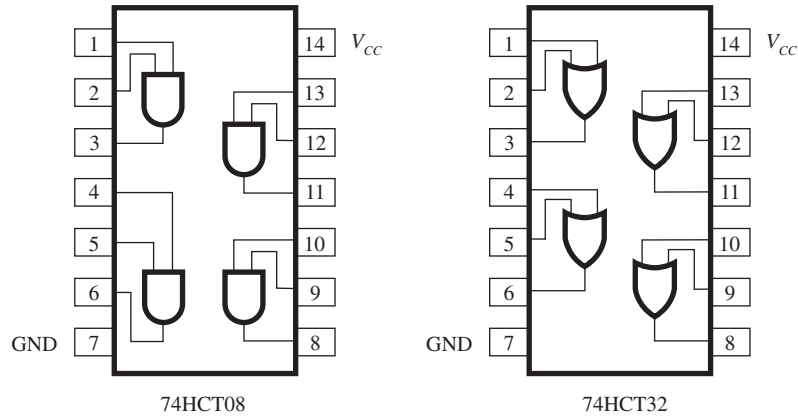

Figure P11
11. The pin layouts for a 74HCT08 CMOS AND gate and a 74HCT32 CMOS OR gate are given in Figure P11. Make the external connections to the chips to implement the following logic equation. (Simplify the logic equation first.)